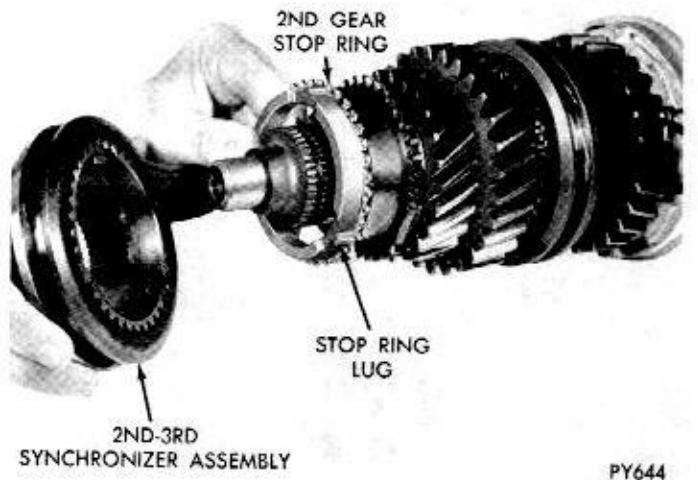

Fig. 15—2nd-3rd Synchronizer Assembly and Stop Ring—Removal or Installation
(22) Install properly indexed stop ring and 2nd-3rd synchronizer assembly against second gear (Fig. 15).